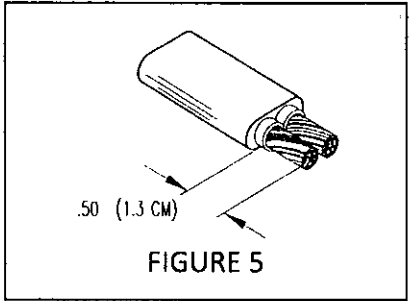

FIGURE 5
- 2.6 Remove tape and cut the lead wires back leaving about .50 in. [1.3 cm] exposed (Fig. 5).
- 2.7 Strip the inner conductor jacket .50 in. [1.3 cm] (Fig. 5).